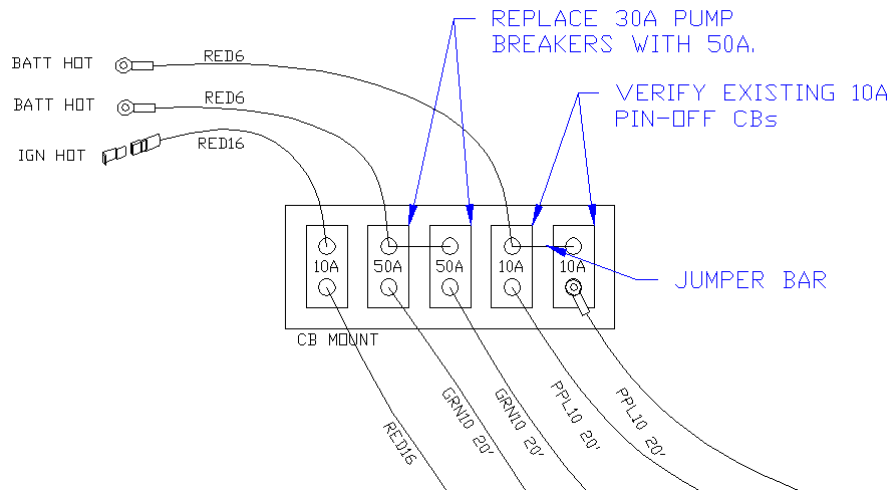

Figure 1: System with Electric PO (PART#SB2048a)
2. Identify the pump breakers. They are attached to (2) 10GA green wires on the output terminals. (some units have only one pump CB which should be changed for a 50A)
4. If 30A or other, replace with provided 50A CBs. Refer to figure 1. (Note: the arrangement of CBs is generally as shown but use the indicated wire colors to verify.)
5. If equipped with electric pin-offs, identify the (2) Pin-Off CBs. They have (2) 10GA purple wire on the output terminals.